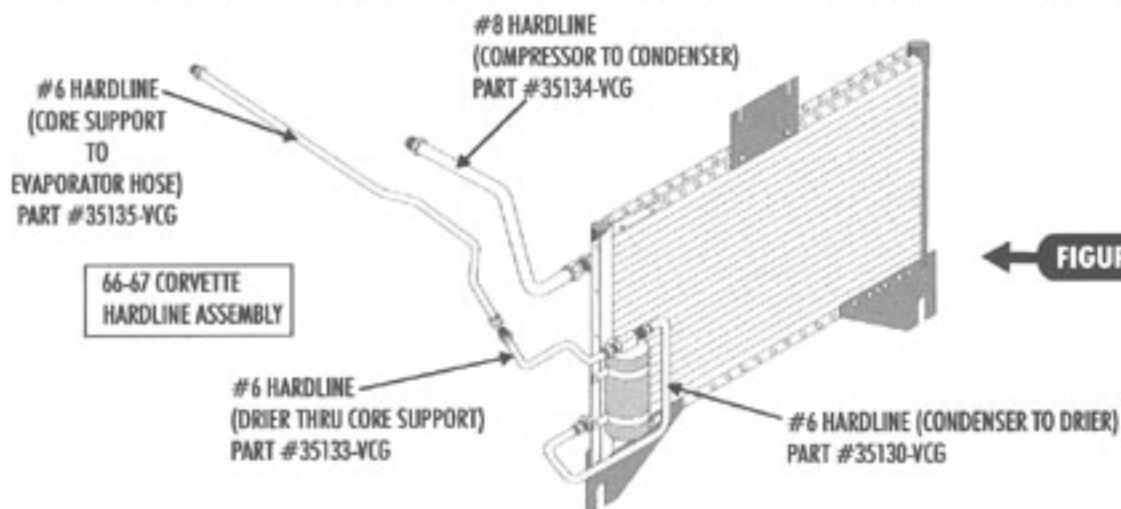

FIGURE 26
- LUBRICATE O-RINGS AND FITTINGS AND ATTACH THE #8 HARDLINE TO THE UPPER CONDENSER OUTLET AND ROUTE OVER PASSENGER SIDE OF CORE SUPPORT. SEE FIGURE 26.
- LUBRICATE O-RINGS AND FITTINGS AND ATTACH THE #6 HARDLINE TO THE DRIER BY ROUTING LINE THROUGH THE CORE SUPPORT FROM THE ENGINE SIDE. SECURE THE LINE ALONG THE INNER FENDER WITH ADEL CLAMPS AND SMALL BOLTS PROVIDED. SEE FIGURE 26.